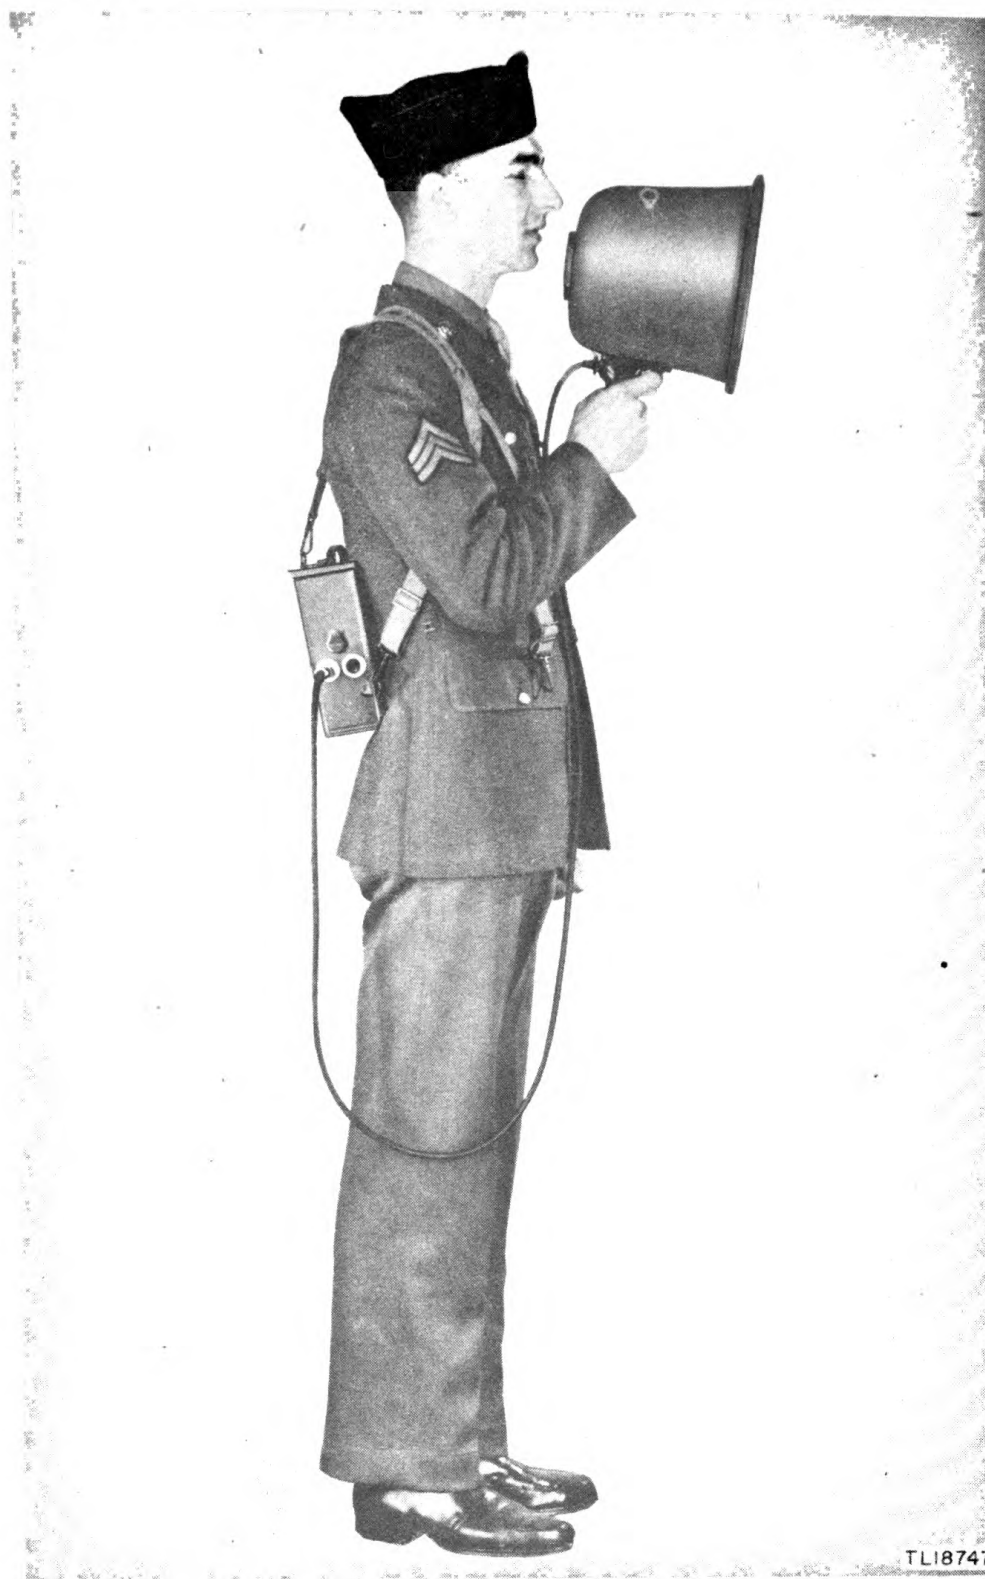

Figure 3. Public Address Equipment PA-4-C, in use as portable equipment
Loudspeaker LS-6-C is a combination unit consisting of exponential reflex baffle, permanent magnet dynamic loudspeaker unit, carbon type microphone unit, pistol handle with trigger switch and necessary cable with connector attached. The dynamic loudspeaker unit is of the permanent-magnet moving coil type. The microphone is a waterproof, carbon granule type of special construction. Loudspeaker LS-6-C is operated by pressing the trigger switch (55) and speaking into the microphone (61). The switch (55) is non-locking and the system is inoperative when the switch trigger is released (fig. 3). A six-foot 4-conductor cord with connector (58) is attached to the handle of Loudspeaker LS-6-C for connecting this unit to Amplifier BC-641-C.
The harness is used as shown in Figures 3 and 5 with Amplifier BC-641-C slung on the back of the user and Loudspeaker LS-6-C slung for easy carrying.
- (7) Shoulder Harness ST-39 is worn as in figures 3 and 5, and is used to carry Amplifier BC-641-C and Loudspeaker LS-6-C.